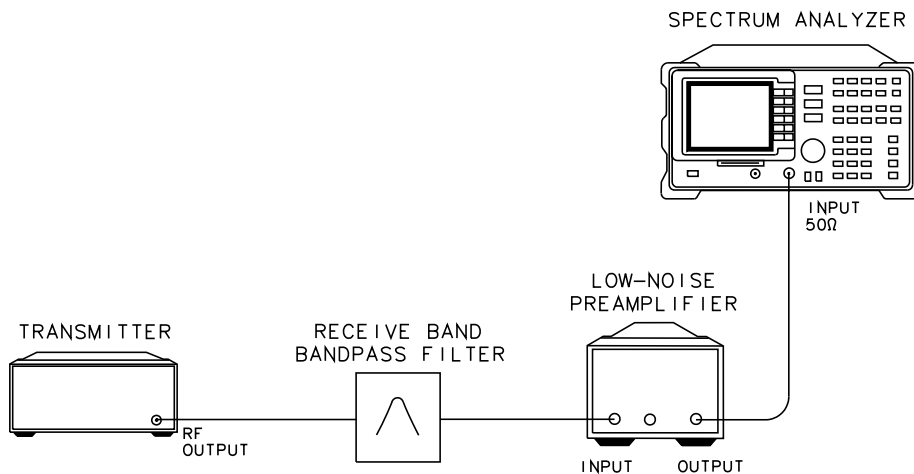

Figure 23 Test Setup for Spurious Emissions - RX Band
- 5 Press **OUTSIDE TX RX**. Refer to Figure 23 on page 64 for the test setup. During the measurement, the spectrum analyzer scans outside the GSM transmit and receive bands for spurious signals. Spurious signals found are listed in a table.
- 7 Press **RX BAND**. For RX band spurious emissions measurements, a caution and instruction message appears on the display. Connect the receive-band BPF and the preamplifier as illustrated in Figure 23 on page 64.